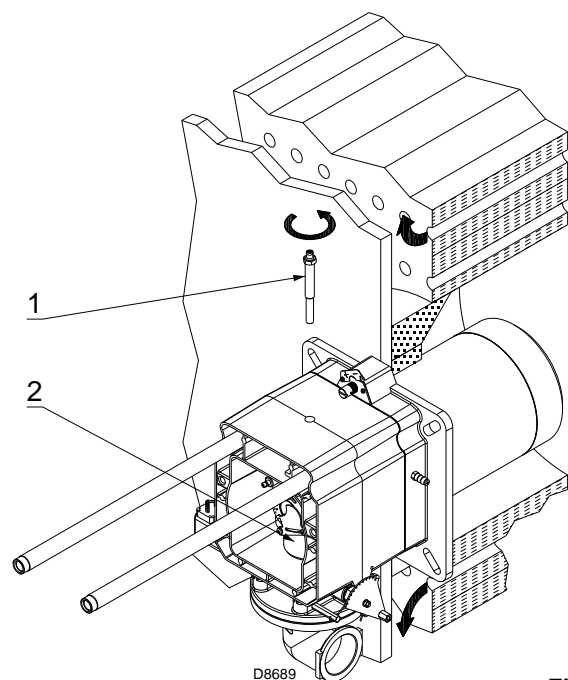

Fig. 12
- remove the screw 1)(Fig. 12);
- take out the inner part 2)(Fig. 12) of the head, and then calibrate them.
At this point of the installation, the combustion head is fixed to the boiler as shown in Fig. 12.